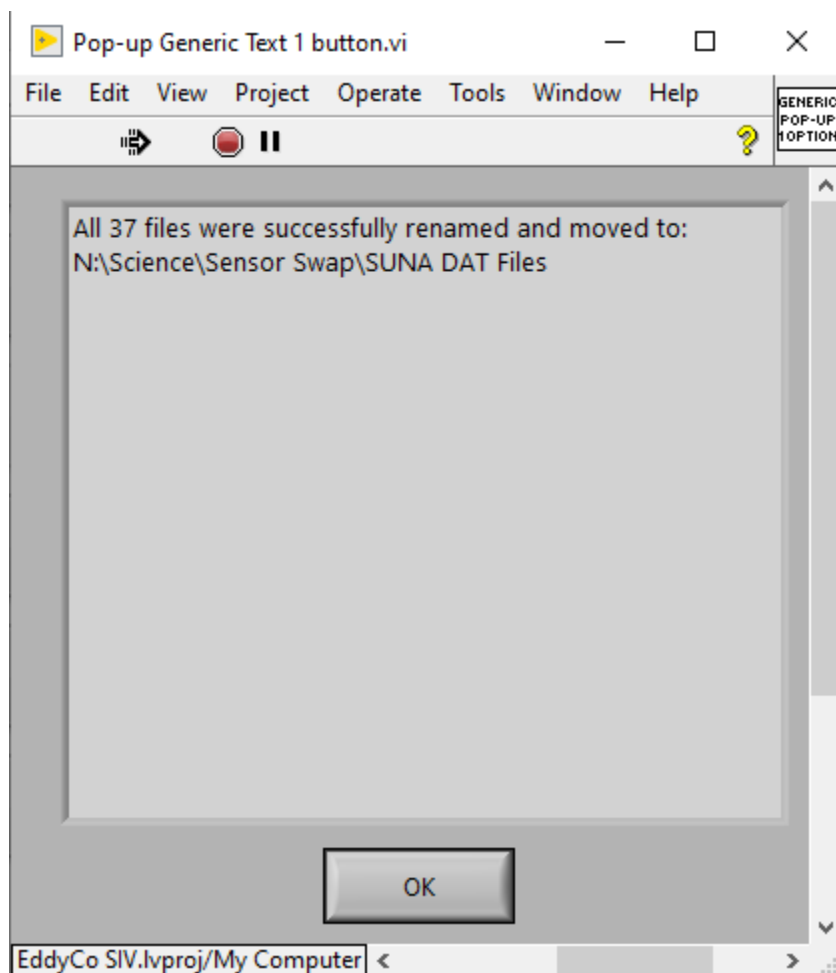

Figure 12. Successful Rename and Upload Confirmation Window
6. If all goes well, a similar dialogue window to the one in **Figure 12** will appear. Click **“OK”**.